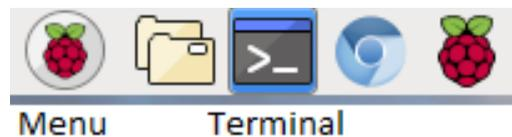

Figure 4: Terminal button
5. After connecting to the internet make sure your Raspberry Pi is up to date with the latest versions of Raspbian OS. To update the system open a terminal by clicking on the terminal symbol in the left upper corner (see figure 4).